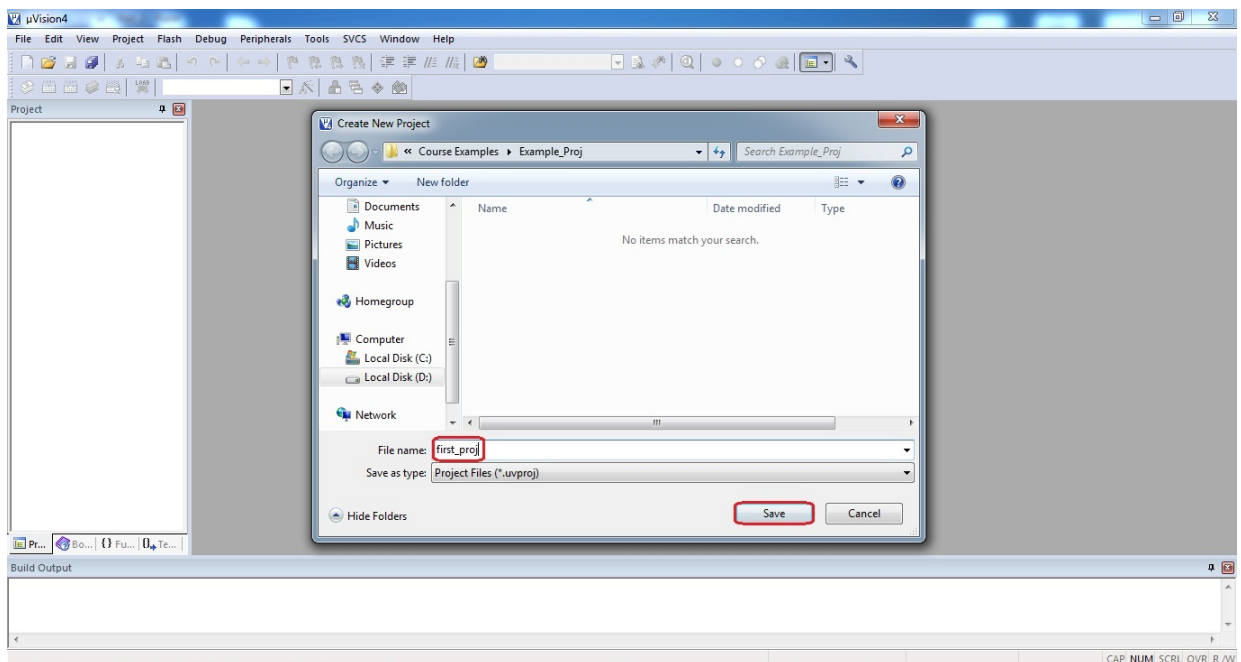

Figure 1.9: Type the name of the project in Keil and save it
3. Select and create a directory, then assign a name to your project (project name can be different from folder name) then click on **Save**. **Do not make a directory, file or project name with a space in it.** A space will prevent simulation from working properly. (Figure 1.9).